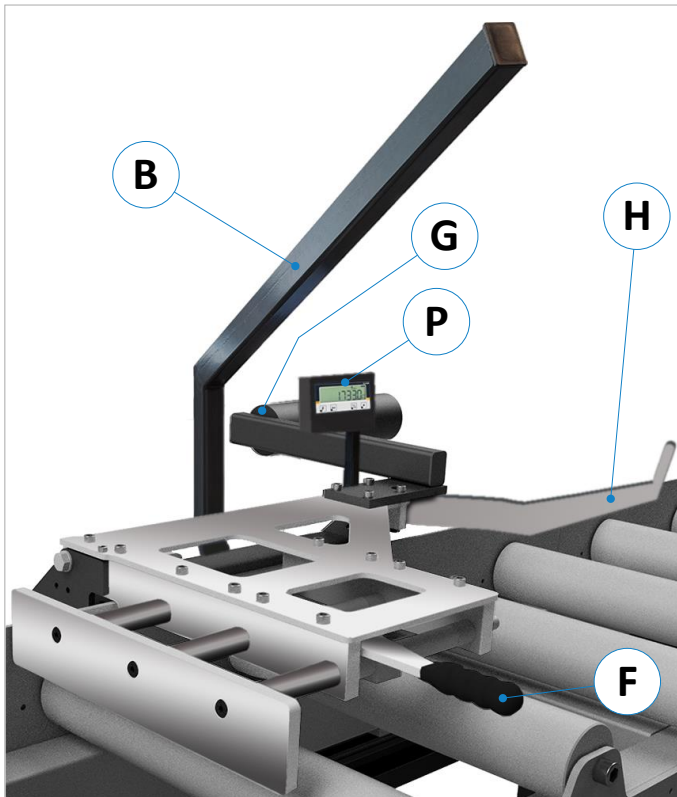

Figure 19: Operating elements of the EXAKT HD E stop system
- Before starting the machining process (e.g. cutting), create the 10 mm clearance stroke by swivelling the eccentric lever (F), see ⇒ Figure 19.
- With the eccentric lever (F) the stop can also be folded up at any position. In the upper position, the stop keeps itself in this position by means of the balance weight (G).